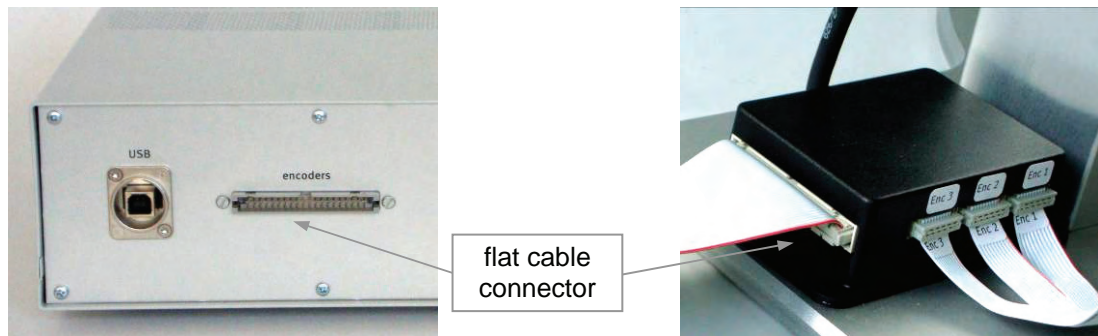

figure 3 – DHD to DHC interface cable
3. connect the black connector box mounted of the delta base to the DHC using the flat cable connector provided in the package (figure 3)